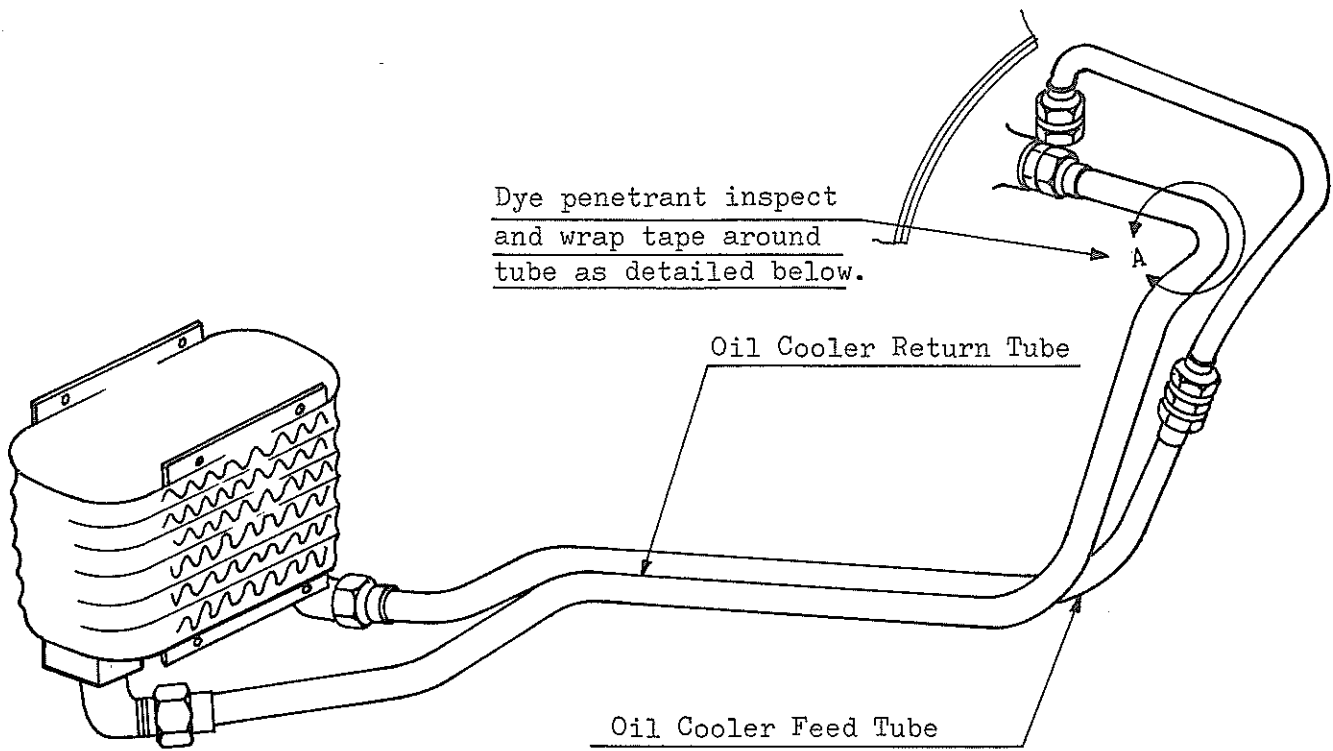

Figure 1
- (1) Remove upper and lower cowlings in accordance with Service Manual, para 4-3-1.
- (2) Remove clamps holding oil cooler tubes.
- (3) Loosen nut of oil cooler side return tube (P/N 200-914131-113 for 160 HP S/N 12 thru 18, 200-914131-107 for 180 HP S/N 12 thru 18, or 200-914131-119 for S/N 19 & Sub.) at oil cooler side. Also loosen nut of oil cooler side feed tube (P/N 200-914131-109 for 180 HP S/N 12 thru 18, or 200-914131-115 for 160 HP S/N 12 & Sub and for 180 HP S/N 19 & Sub.) at the same side. Prior to loosening nut, place a suitable container to catch oil.
- (4) Loosen nuts of engine side return and feed tubes (P/N 200-914131-117 for 160 HP S/N 12 thru 18, 200-914131-111 180 HP S/N 12 thru 18, or 200-914131-123 for S/N 19 & Sub.) at engine side.
- (5) Remove oil cooler tubes from engine.
- (6) Clean tube with naphtha or suitable solvent, and visually inspect for cracks, wear or other damage. Pay particular attention to flared portion of tube, and replace tube if damage is found.
- (7) Dye penetrant inspect the 90 degree bend portion of oil cooler return tube. (Ref. Figure 1, Area "A".)